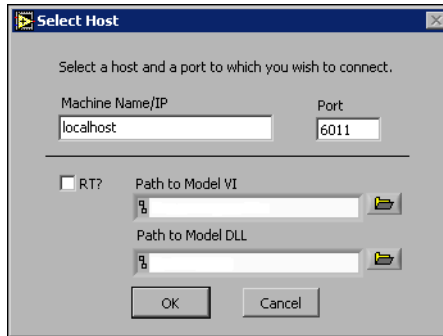

Figure 10. Select Host Dialog Box
2. Click the **Run** button, shown at left, to run the VI. The **Select Host** dialog box, shown in Figure 10, appears.